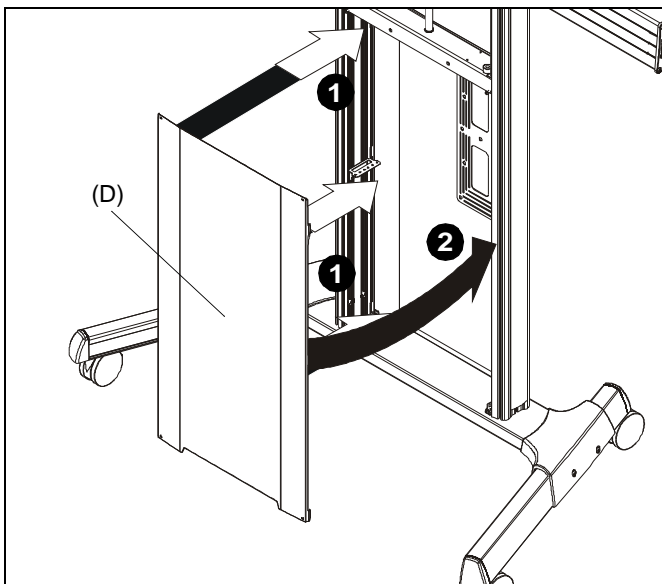

Figure 17
1. Insert tabs on one side of lower cover (D) into corresponding slots on side of column assembly. (See Figure 17)
2. Manipulate lower cover so that it fits within front cavity of column assembly and insert tabs on other side of lower cover into corresponding slots on side of column assembly. (See Figure 17)